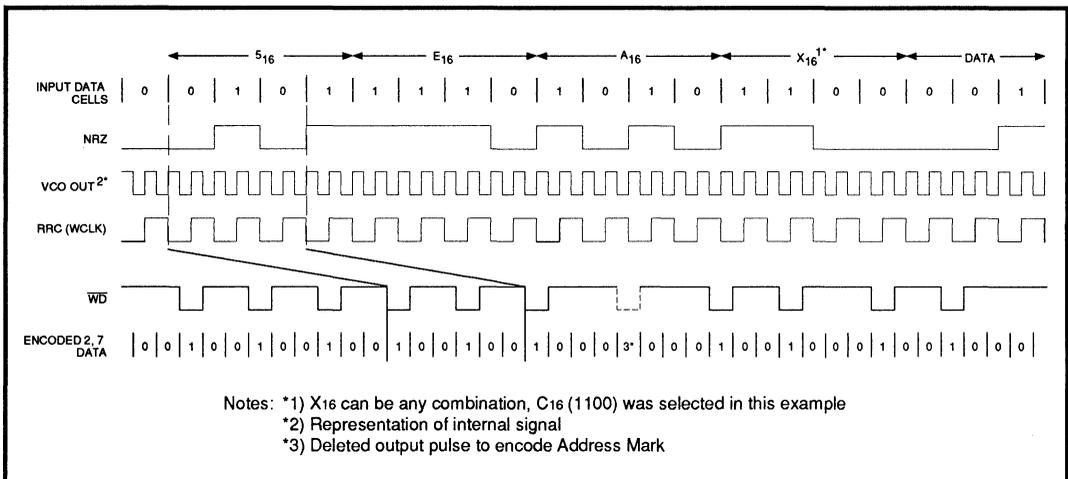

FIGURE 8: Write Address Mark Generation
In the Soft Sector Mode, when WRITE GATE (WG), transitions high and the NRZ input is held low, the SSI 32D535 automatically generates the 3T (100) Preamble Field at the WRITE DATA (\overline{WD}), output. The 3T Preamble Field will continue to be generated until the first low to high transition on the NRZ line. As shown in Figure 8, the first low to high transition occurs with the second bit '1' of the 5₁₆ (0101) in the 5EA_{x16} Address Mark generation pattern. To generate the Address Mark, the SSI 32D535 automatically changes the '1' in the eleventh position (see note 3) of the 2, 7 RLL encoded sequence, to a '0'. This generates a pattern of seven zeros followed by two zeros. This unique pattern satisfies the 2, 7 RLL constraints, but will never occur during a normal encoding sequence. The x₁₆ of the 5EA_{x16} Address Mark generation pattern can be selected, a 'C₁₆' (1100) was utilized in this example.